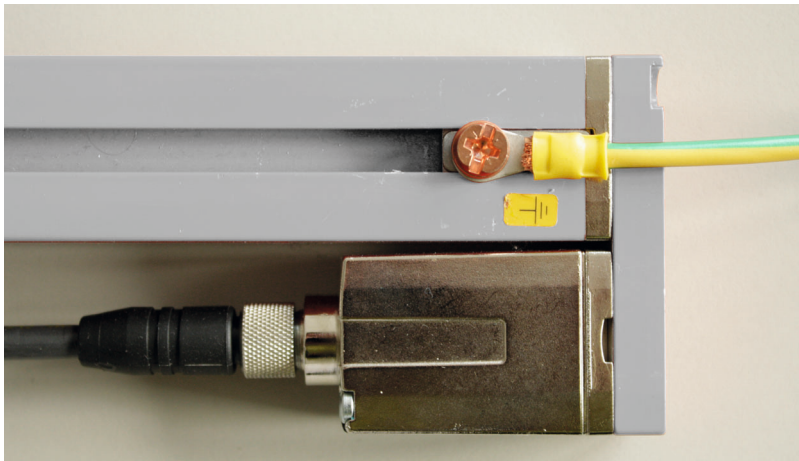

Figure 7.1: Connecting the ground potential to the light curtain
- ↳ Connect the transmitter housing **and** receiver housing of the light curtain to the protective conductor on the FE machine star point via the PE screw on the grounding slot nut (see figure 7.1).